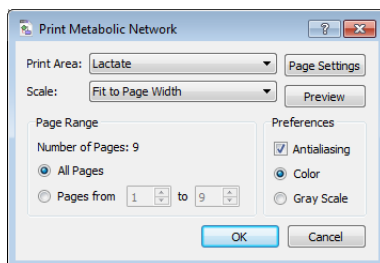

Figure 145 Print Metabolic Network dialog box
- l Select **Fit to Page Width** and other parameters to use in the **Print Metabolic Network** dialog box (Figure 145).
- o Click **OK** to print your network diagram (Figure 145).